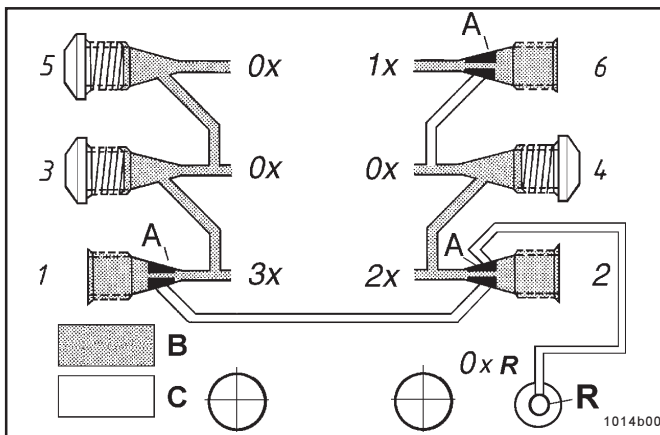

Fig.1 - Single double and triple lubricant output
- Lubricant from a plugged outlet is redirected to the next outlet on the same side of the SSV divider block in descending numerical order (see Fig. 1).
- For instance, plugging outlets 5 and 3 will triple the amount of lubricant to outlet 1. The connecting channel to outlet 2 is closed by means of the check valve's clamping ring (A).
- * Install a closure plug in each outlet port hole which is not required, see Fig. 1 or 4.
Important: One complete check valve must be installed in each outlet port hole used, see Figs. 1 & 4 to avoid draining the oil reservoir.
Important: If outlet 2 is connected to a lube point, outlet 1 must not be closed, see Fig. 1.